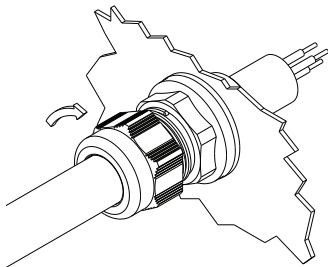

Figure 4
4. Tighten cap nut (Figure 4).